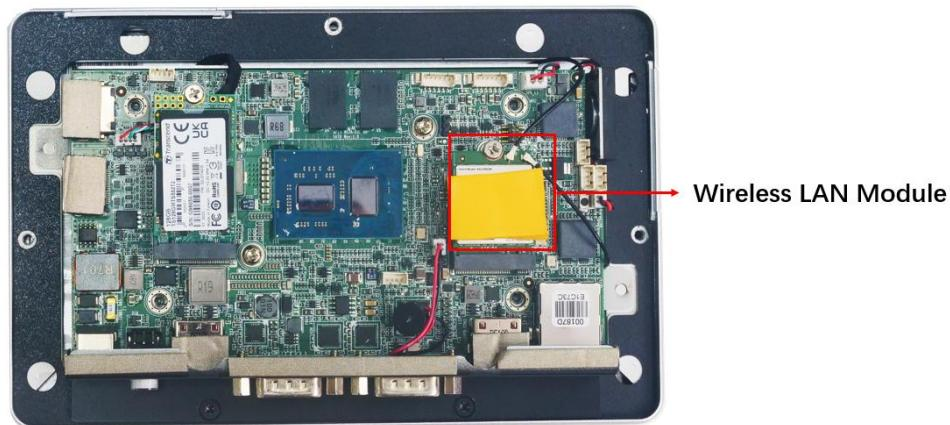

Figure 4-1: WLAN Module Location
Step 4: Locate the WLAN module (**Figure 4-1**).